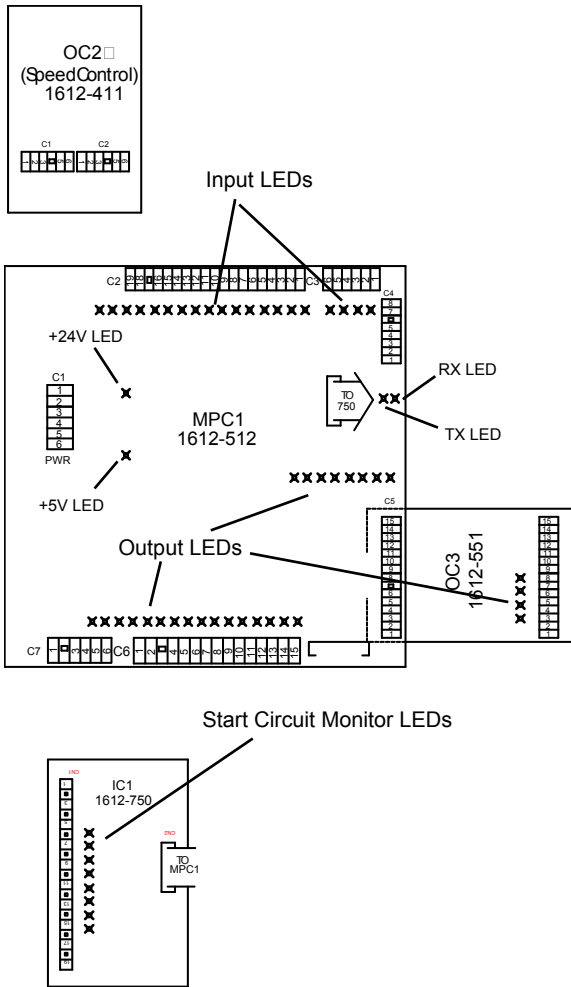

Figure 6-1: The microprocessor control boards are located in the electrical panel.
4. For the component/function that doesn't work, check the appropriate LEDs (Figure 6-1) against the chart below: